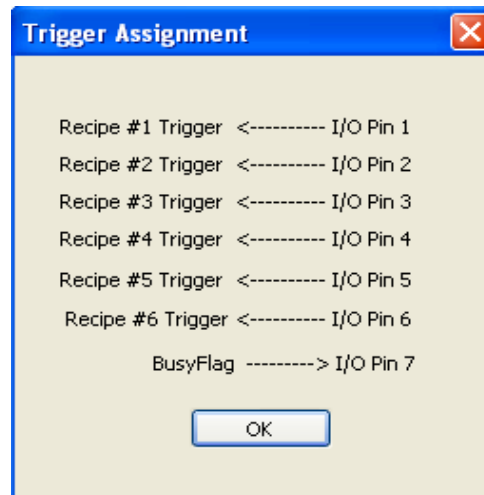

Figure 5-2: Trigger Map
6. **Trigger Map:** Displays the assignment of the trigger input to the dispensing recipes. For example, in Figure 5-2 below, input trigger signal from I/O Pin 1 is used to activate Recipe #1. The BusyFlag (I/O Pin 7) is an output signal that the external controller/robot can use to monitor the Jet status. When the Jet is idle, the BusyFlag signal is set to high; when the Jet is activated, the BusyFlag signal is set to low. An external controller/robot can use the BusyFlag signal to synchronize the timing for the next Recipe trigger.